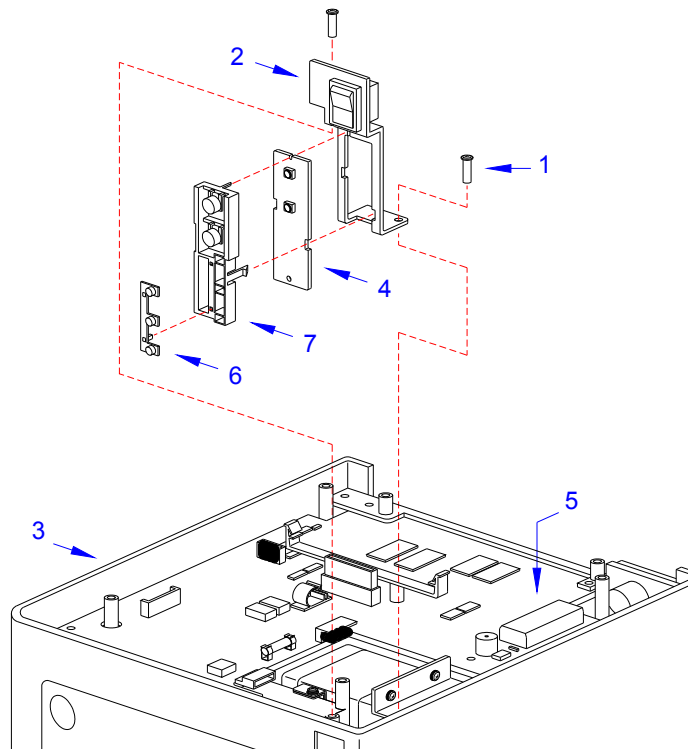

Figure 4-6, Panel Board Replacement
- 3 Remove the two screws (1) (See Figure 4-6) that secure the panel board bracket (2) to the printer (3).
- 4 Disconnect the wiring harness for the defective panel board (4) from the main circuit board (5).
- 5 Detach the lens unit (6), button unit (7), and panel board (4), from the bracket, in this order (2).
- 6 Insert the wiring harness of the replacement panel board (4) through bracket (2) and connect to main circuit board (5).
- 7 Reattach the replacement panel board (4), button unit (7), and lens unit (6) consecutively to bracket (2).
- 8 Insert the assembly (7, 6, 4, 2) into the printer (3) and secure using two screws (1).